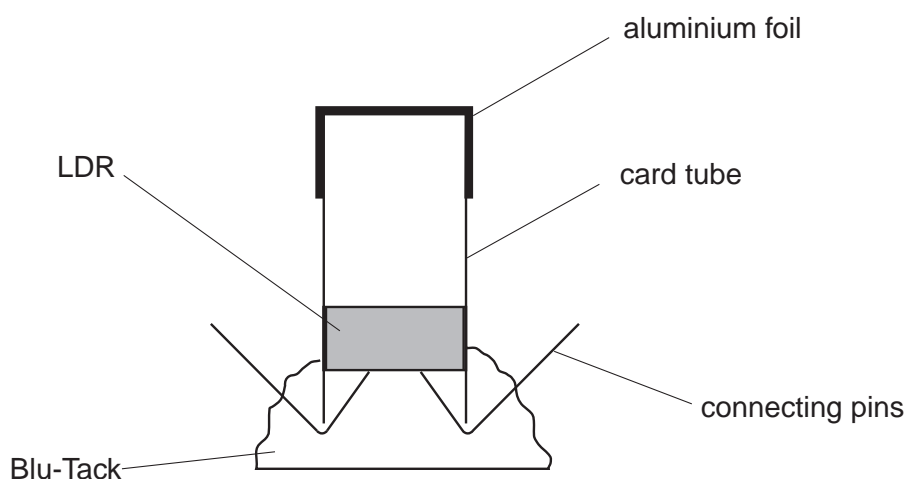
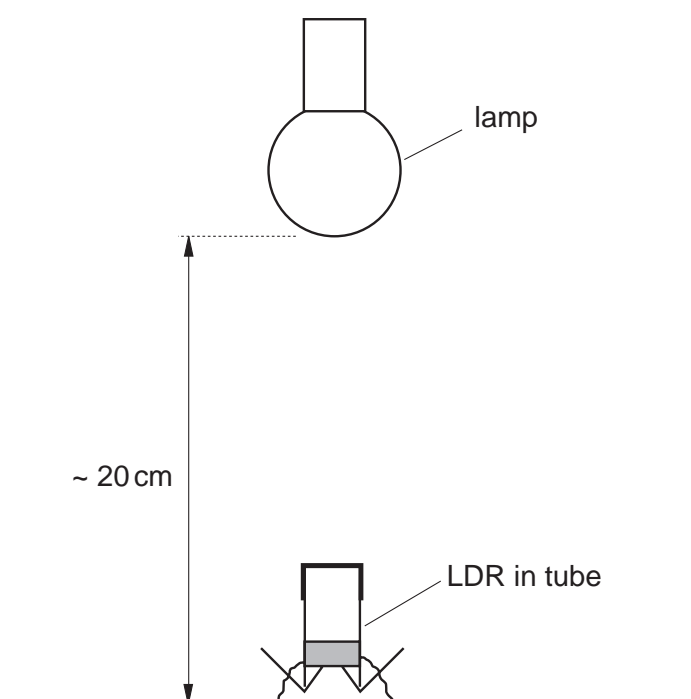

Fig. 1.1
Fig. 1.2
Light-dependent resistor (LDR) (e.g. RS components catalogue reference 651-507), **one per candidate**. The resistance of this light-dependent resistor should vary from about a few hundred ohms in bright light conditions to several million ohms in dark conditions. The LDR should be placed in a black card tube with a piece of Blu-Tack at the bottom of the tube to prevent light entering from below. The card must be thick enough so that light cannot penetrate the sides. The length of the tube is not critical, but should be around 3 cm or 4 cm. The metal connecting pins from the LDR should protrude from the bottom of the tube (through the Blu-Tack) so that candidates may make connections to the pins using the crocodile clips. A piece of aluminium foil must be folded on to the top of the tube and pressed against the sides of the tube so that the tube is light-tight. It will be necessary to wrap a small length of Sellotape around the side of the tube and the aluminium foil to secure the foil. Spare tubes containing LDRs should be available. The tube is shown in Fig. 1.1.
1. Before the start of the experiment, Supervisors should attach the tube in an upright position to the surface of the bench using the Blu-Tack. The pearl lamp should be mounted vertically above the aluminium foil at the top of the tube. The lamp should be switched on just before the start of the experiment. See Fig. 1.2.
3. If the apparatus is to be used by a second candidate, the circuit should be dismantled at the end of the first candidate's experiment and the equipment laid out on the bench ready for the next candidate to use. A fresh tube containing an LDR as shown in Fig. 1.1 should be supplied and fixed to the bench as shown in Fig. 1.2.